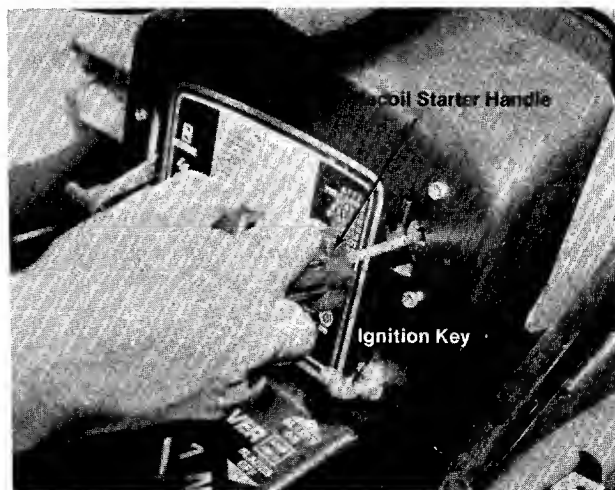

FIGURE 9. RECOIL STARTER
The recoil starter handle is located on the right side of the dashboard. The recoil starter handle can either be pulled while seated on the rider or pulled while standing behind the rider. The ignition key must be on before the engine will start. After the engine starts, the recoil starter handle must be returned and locked into the dashboard before the blade or clutch are engaged. The engine will stop if you do not follow these instructions. See figure 9.
7. **Recoil Model.** Turn the ignition key to the ON position, twist the recoil starter handle until it is free and pull it with a quick steady motion. After the engine starts, return the recoil starter handle and twist it until it locks. See figures 9 and 12.